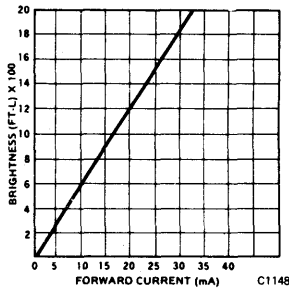
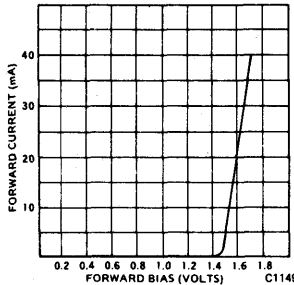

Figure 3a.
Figure 3b.
**Design Example #1:** Suppose that a MV50 is to be used with Figure 2's circuit and a  $V_{CC}$  of +5 volts. Figure 3a shows the MV50's Brightness versus  $I_F$  curve, and Figure 3b shows  $I_F$  vs.  $V_F$ . (Note that Brightness varies directly with  $I_F$ ). Further suppose that a Brightness of 800 foot-Lamberts is decided upon. From Figure 3a we see that  $I_F$  must be set at 13 mA, from Figure 3b we see that  $V_F$  will be 1.5 volts when  $I_F$  is 13 mA. Substituting these values in Equation 2, we obtain